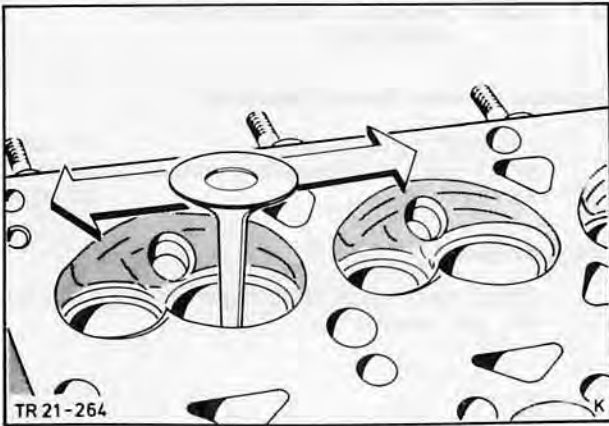

Fig. 176. Measure valve guide play by pressing sideways
1. Insert existing valve in valve guide and determine play by pressing sideways, Fig. 176.